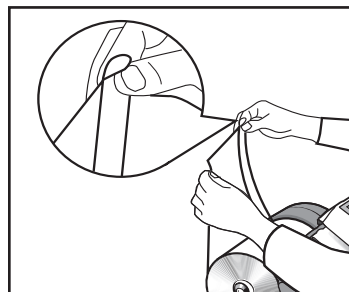

Figure 3
2. Open the Air Channel on right side of Film Roll. (See Figure 3)